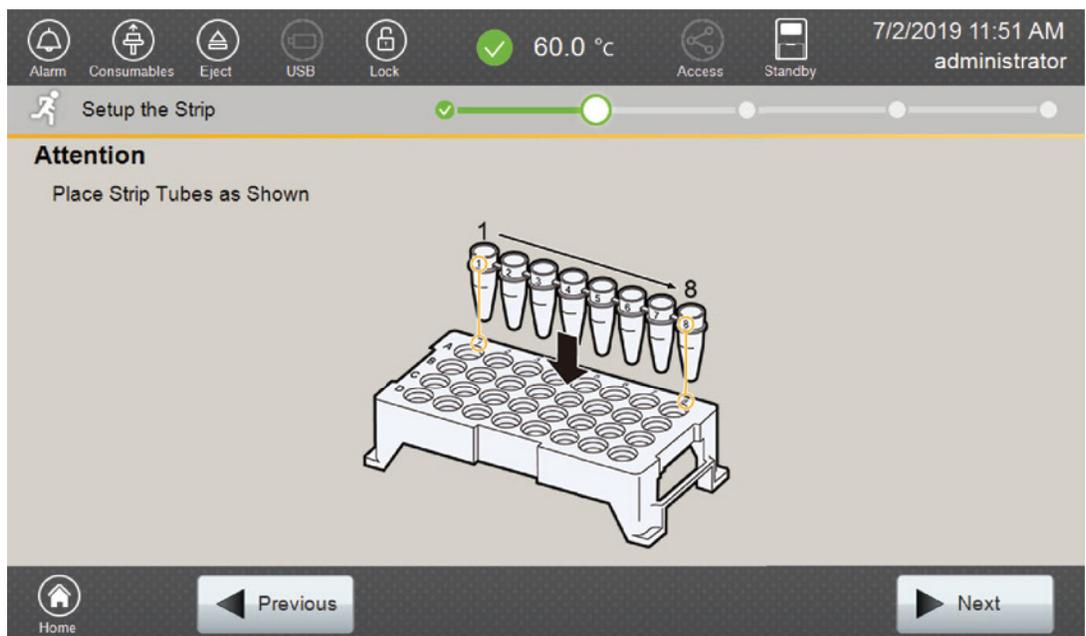
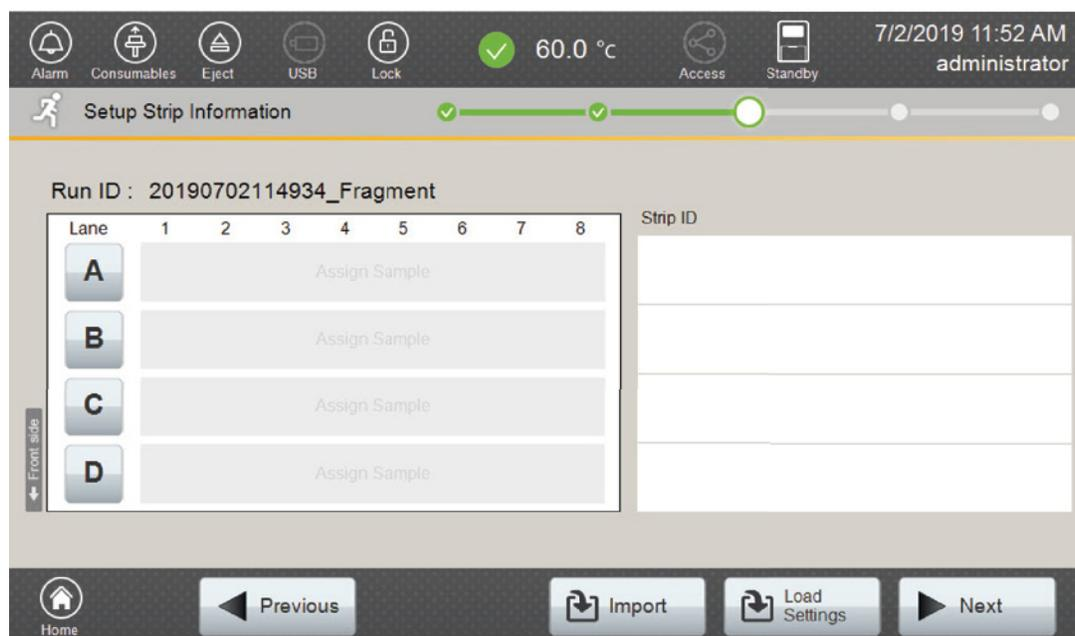

Figure 9. 'Setup the Strip' screen.
Figure 10. 'Setup Strip Information' screen.
6. Follow the message screen for placement of strips into the sample cartridge (Figure 9).
1. Select **Next** on the 'Setup the Strip' screen shown in Figure 9. This will take you to the 'Setup Strip Information' screen shown in Figure 10.